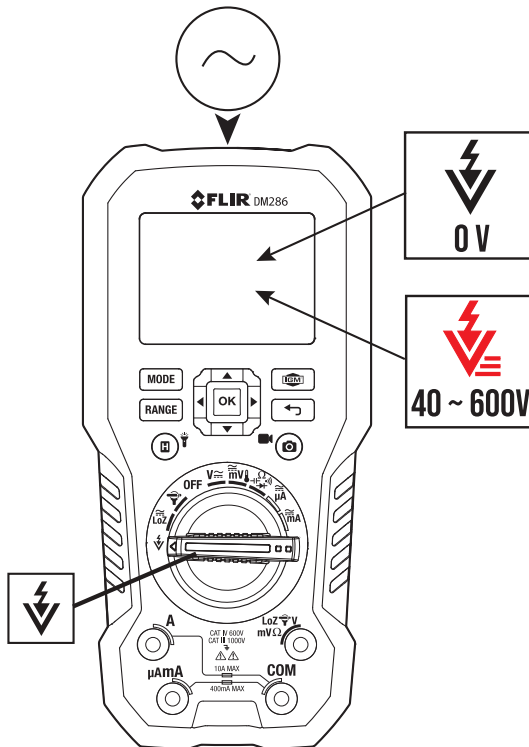

Fig. 9.4 Non-Contact Voltage Detector
1. Set the function switch to the NCV  position. See Fig. 9.4.